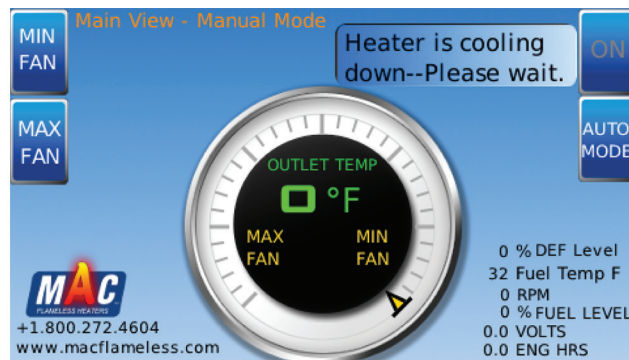

Figure 3-8. Heater Cooling
1. Press OFF to stop the heater (*Figure 3-7*, item C). Heater automatically turns off and the engine begins cooling down (*Figure 3-8*).